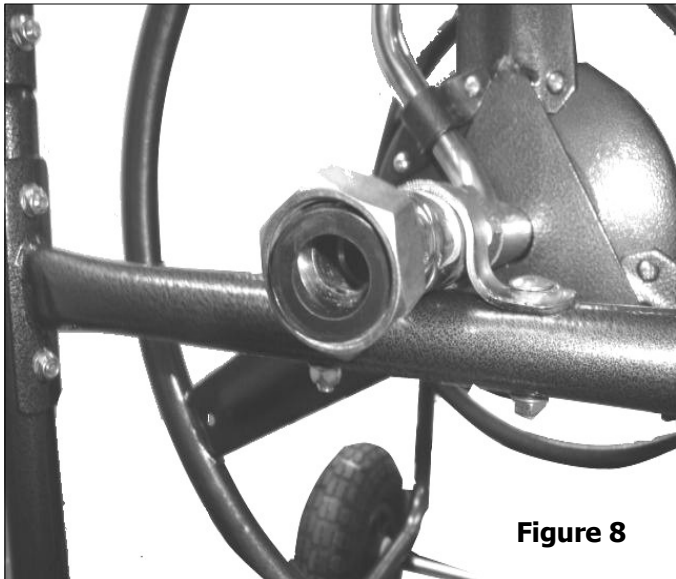

Figure 8
8. Insert Rubber Washers into Hose Extension and Water Coupler. See Figure 8